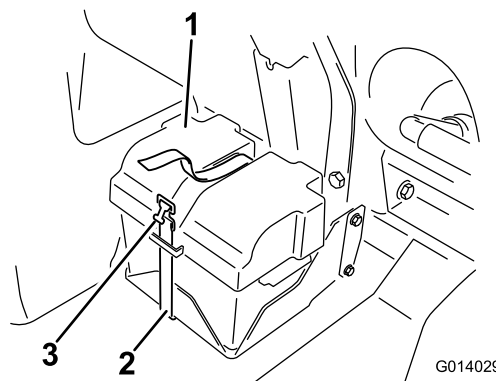

Figure 127
2. Remove the battery cover and disconnect the negative (black) ground cable from the battery post (Figure 127).
4. Install the battery cover and secure it with the strap that you removed previously (Figure 127).